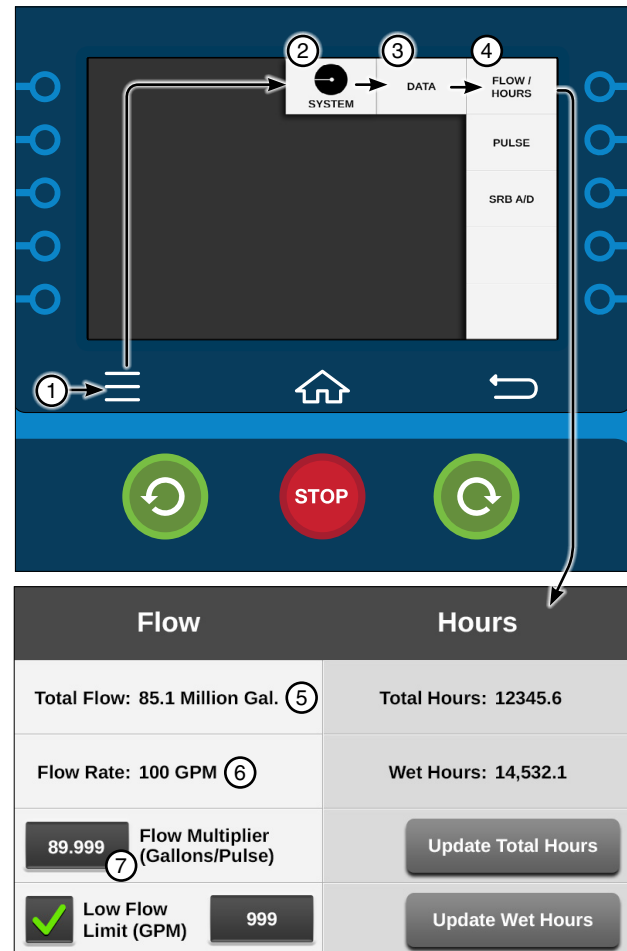

Figure 62-1 1. Menu 5. Total Flow
The Data option is used to review the machine's Flow/Hours, Pulse, and SRB A/D information collected by the control panel. Push Menu, System, and Data. Refer to Figure 62-1.
Push **Menu**, **System**, **Data**, and **Flow/Hours** to display the Flow/Hours screen. Refer to Figure 62-1.
1. Select the **Flow Multiplier** field. Refer to Figure 62-1.